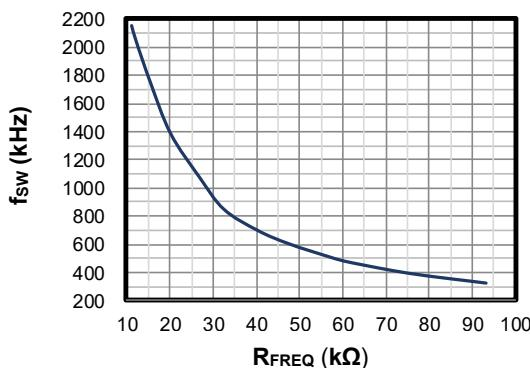

Figure 1: R3 Frequency Resistance
7. The MPQ4315's oscillating (switching) frequency can be configured by an external frequency resistor (R_3). R_3 can be estimated based on the switching frequency (f_{sw}) vs. frequency resistance (R_{FREQ}) curve (see Figure 1).